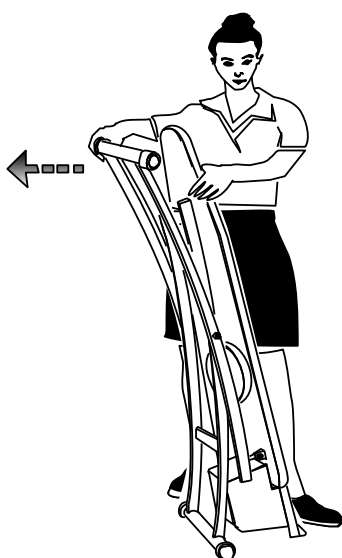

Fig. 3
3. Pull the legs until the desired height has been reached (fig. 3).